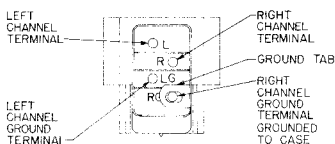

FIGURE 1
CONNECTIONS (see Figure 1): Right "hot" lead (usually red) to "R," right ground (usually green) to "RG." Left "hot" lead (usually white) to "L," left ground (usually blue) to "LG." If metal head is causing ground loop hum, remove the ground tab. The metallic cartridge shield is disconnected from the right channel ground by the removal of the ground tab.
2. Connect leads to cartridge (see Figure 1).
2. Enfillez les cosses sur la cellule (voir fig. 1).